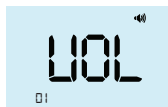
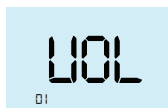

Fig. 12
Fig. 13
Press the **SET** button four (4) times. F4 will display on the screen. Press the right arrow to increase the volume. Press the left arrow to decrease the volume. **As the volume is increased, the speaker symbol will expand, and the beep tone will become louder. (Figure 12) To mute the volume, press the left arrow until the speaker symbol no longer appears. (Figure 13) To save the setting, press the SET button until the HOME SCREEN is displayed.**